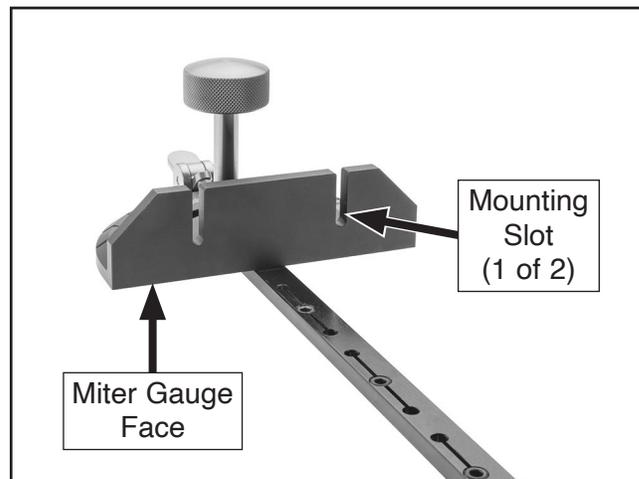

Figure 3. Auxiliary fence mounting slots.
2. Position board against face of miter gauge and use slots shown in **Figure 3** to mark mounting holes.